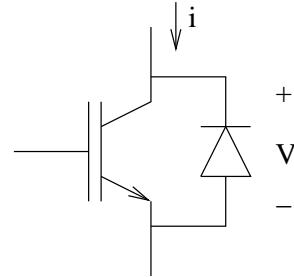

Figure 5.11: Combine Elements 1
1. Block positive  $V$  and carry positive and negative  $i$  (see Figure 5.11).